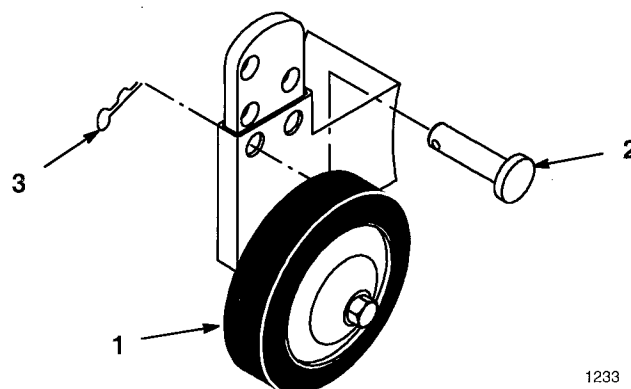

Figure 17
2. Remove hairpin cotter and pin to change hole location (Fig. 17).
3. Select a hole position so the gage wheel is 3/8" (9.5 mm) off the ground for the height-of-cut to be used (Fig. 17).